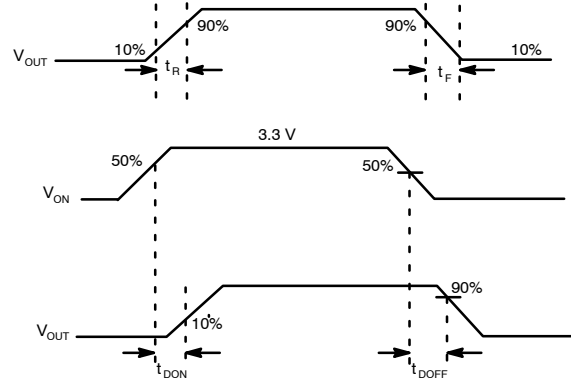

Figure 21. Timing Diagram
4. $t_{DON} / t_{DOFF} / t_R / t_F$ are defined in Figure 21.